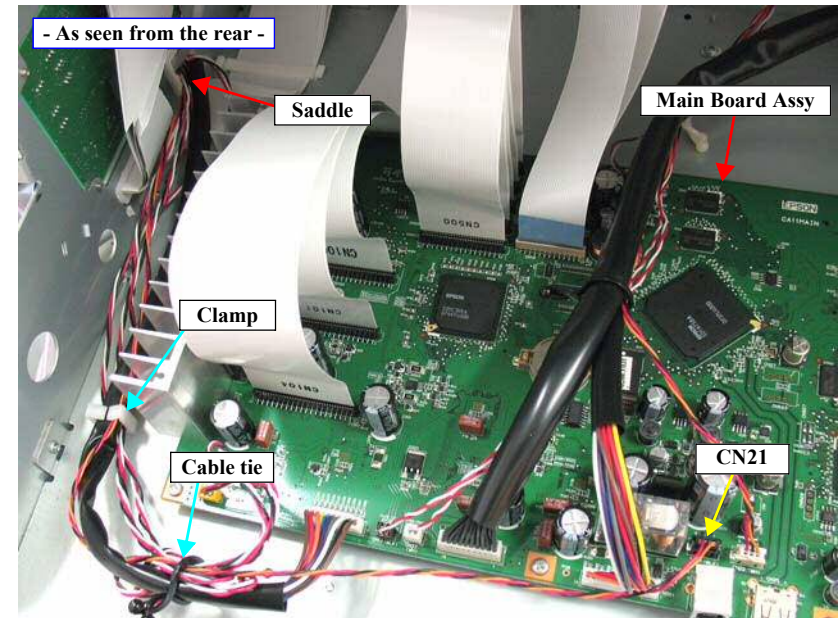

Figure 4-36. Releasing the harnesses (rear)
9. Release the cable from the cable tie, clamp and the saddle. *See Figure 4-36.*